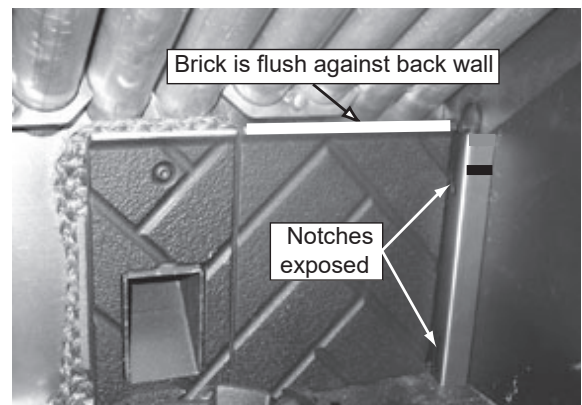

Figure 27.5
2. The brick will be flush against the back wall and notches exposed in the side bracket (Figure 27.5).
6. The baffle does not completely cover the top of the firebox. There is an opening on the left as shown in Figure 27.5.